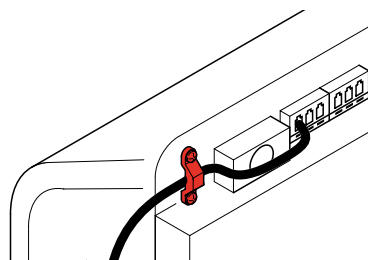

Fig. 12
- Fix the cables to the back panel by the use of supplied dowels (see fig.12).